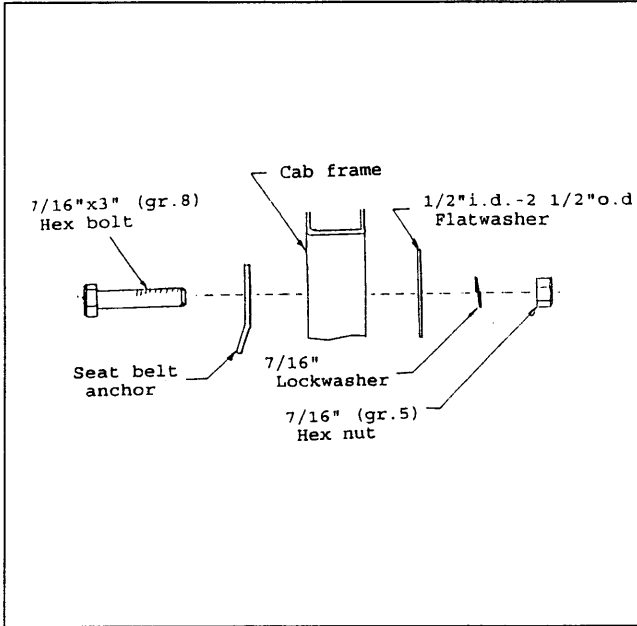

Figure 5
13. Locate the 15/32" dia. hole in the left, rear, inside frame member of the ROPS. Take one of the seat belt (2) anchors and position it against the inside of the tube. Bolt the anchor to the frame using the 7/16"x3" hex bolt, hex nut, and lockwasher provided. (see figure 5)